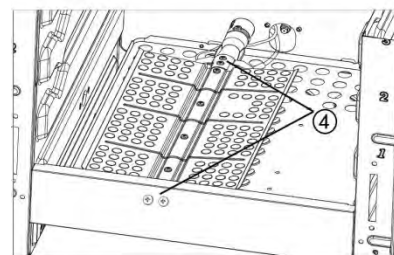

fig. 22
- b) Remove the burner securing screws (total 4) (fig. 22)
- d) Using a 7 mm box spanner, unscrew the injector (indicated in figure 22) and replace it using the new LPG injector.